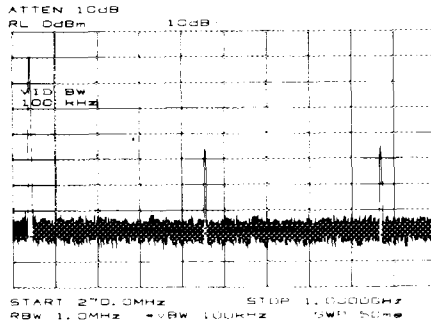

Fig.4.8. Input signal and harmonics.
1. For measuring the 300 MHz fundamental and its first two harmonics, set the start frequency to 270 MHz and the stop frequency to 1000 MHz. This displays the fundamental frequency and the second and third harmonics, as shown in Figure 4.8. To improve visibility, smooth the video bandwidth: press **BW** and the softkey VIDEO BW; then use the STEP **↓** key as desired.